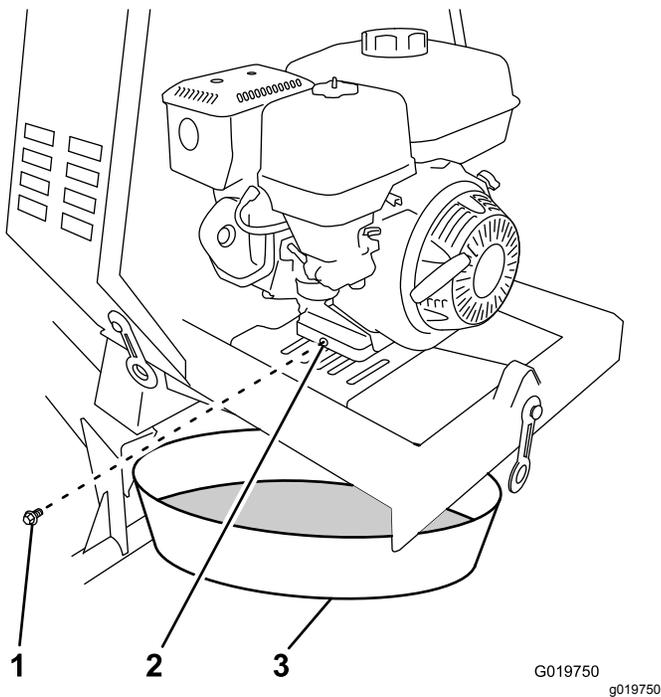

Figure 53
3. Place a drain pan under the oil-drain hole of the engine (Figure 53).
4. Remove the drain plug and catch the oil in the oil-drain pan (Figure 53).
5. When the oil has drained completely, install the drain plug with a new washer (Figure 53).